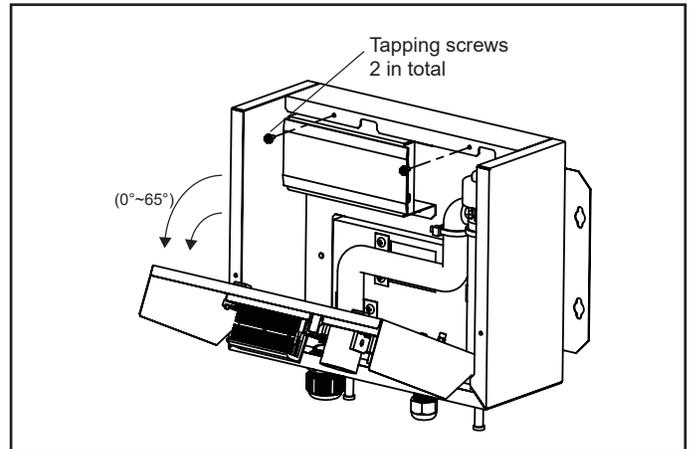

Figure 8. Flip Electrical Control Board Assembly Forward
4. Remove six (6) screws and three (3) brackets that secure the electronic expansion valve in the box. See Figure 8.